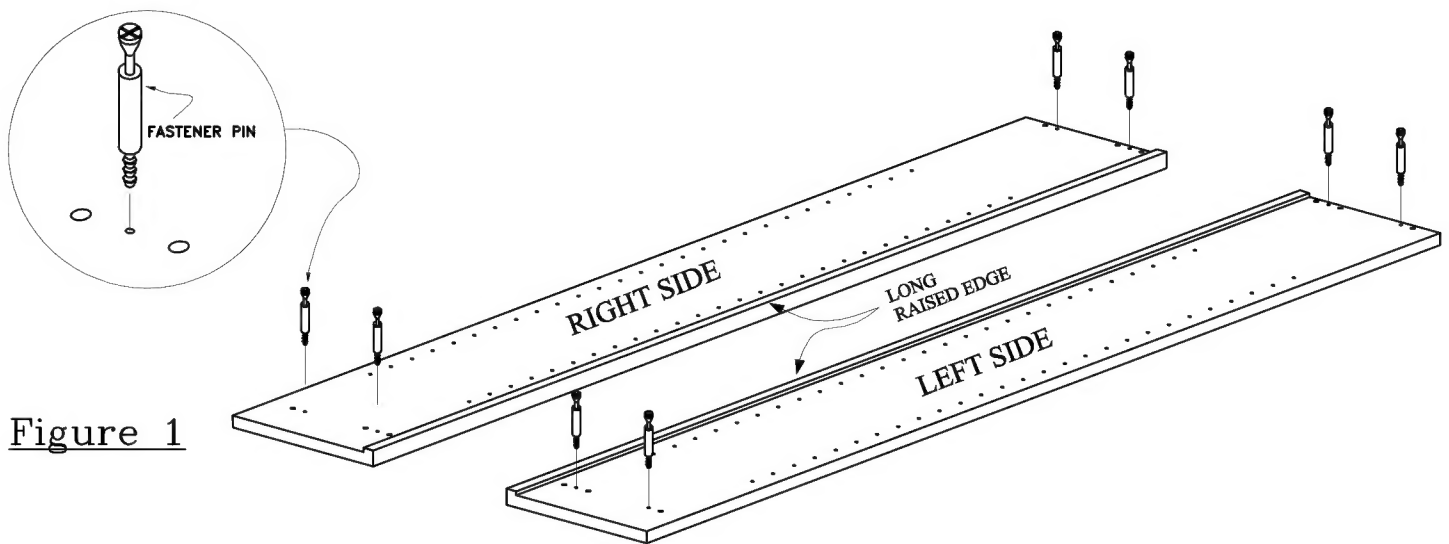

Figure 1
Step 2. On a clean soft surface, such as a carpet or the inside of the carton, place RIGHT SIDE, with the small-predrilled holes facing up and the long raised edge facing towards you. See Figure 1.
Step 3. Insert and screw 4 metal fastener pins into 4 small pre-drilled holes of RIGHT SIDE. **DO NOT OVER TIGHTEN.** See Figure 1.
Step 4. With your friend, carefully place LEFT SIDE, with the small-predrilled holes facing up and the long raised edge facing towards you. See Figure 1.
Step 5. Insert and screw 4 metal fastener pins into 4 small pre-drilled holes of LEFT SIDE. **DO NOT OVER TIGHTEN.** See Figure 1.